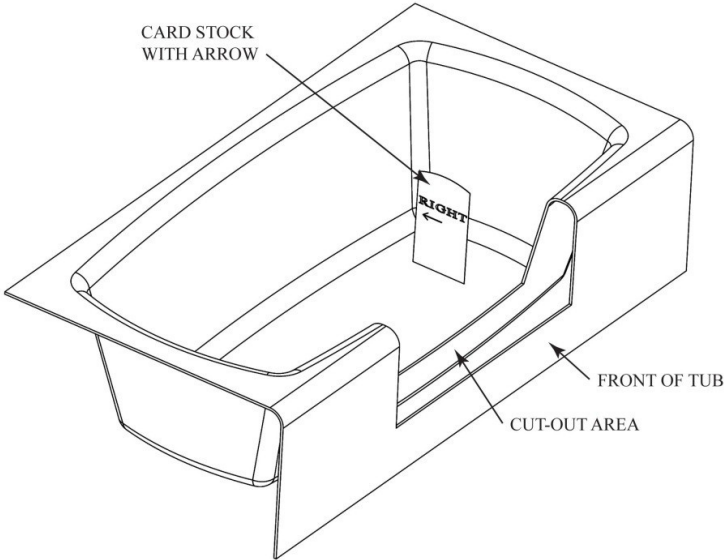

FIGURE 2
3. Cut out the paper templates with scissors making sure to keep to the inside of the tracings (Figure 2).